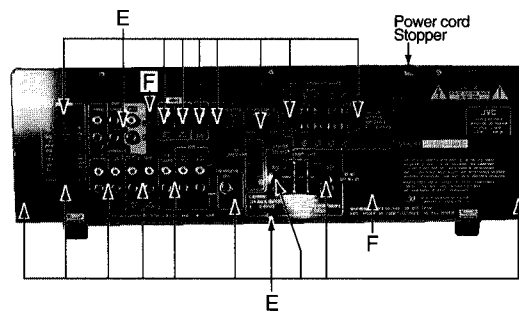

Fig.4
- 2.Remove 19 screws E and 2 screws F (Fig.4)